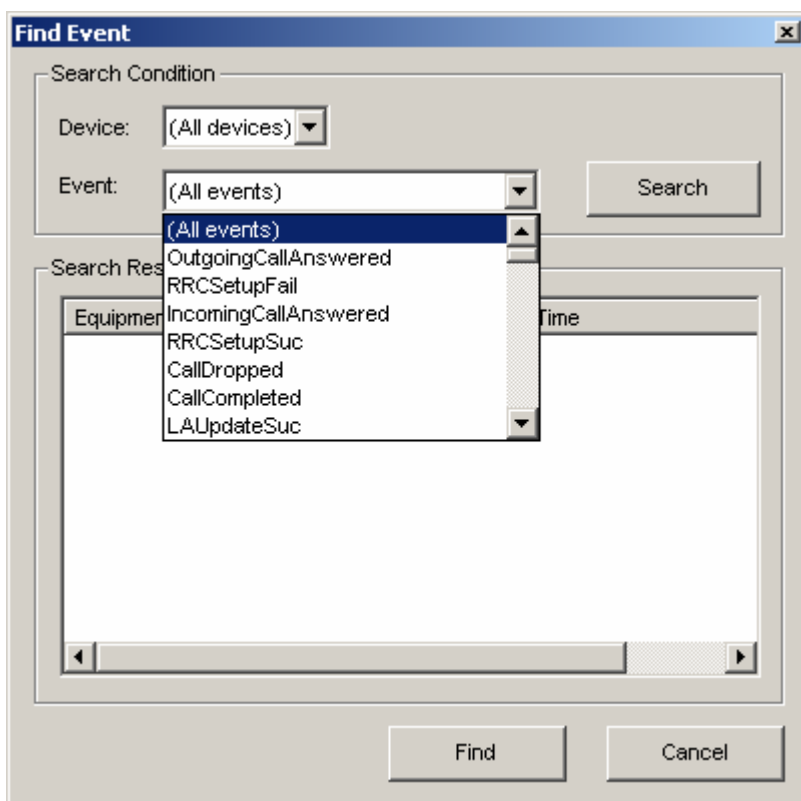

Figure 9-11 Find Event dialog box
The **Find Event** window is displayed, as shown in Figure 9-11.
- Select an event in the **Found Event** dialog box, and click **Find**, as shown in Figure 9-11.